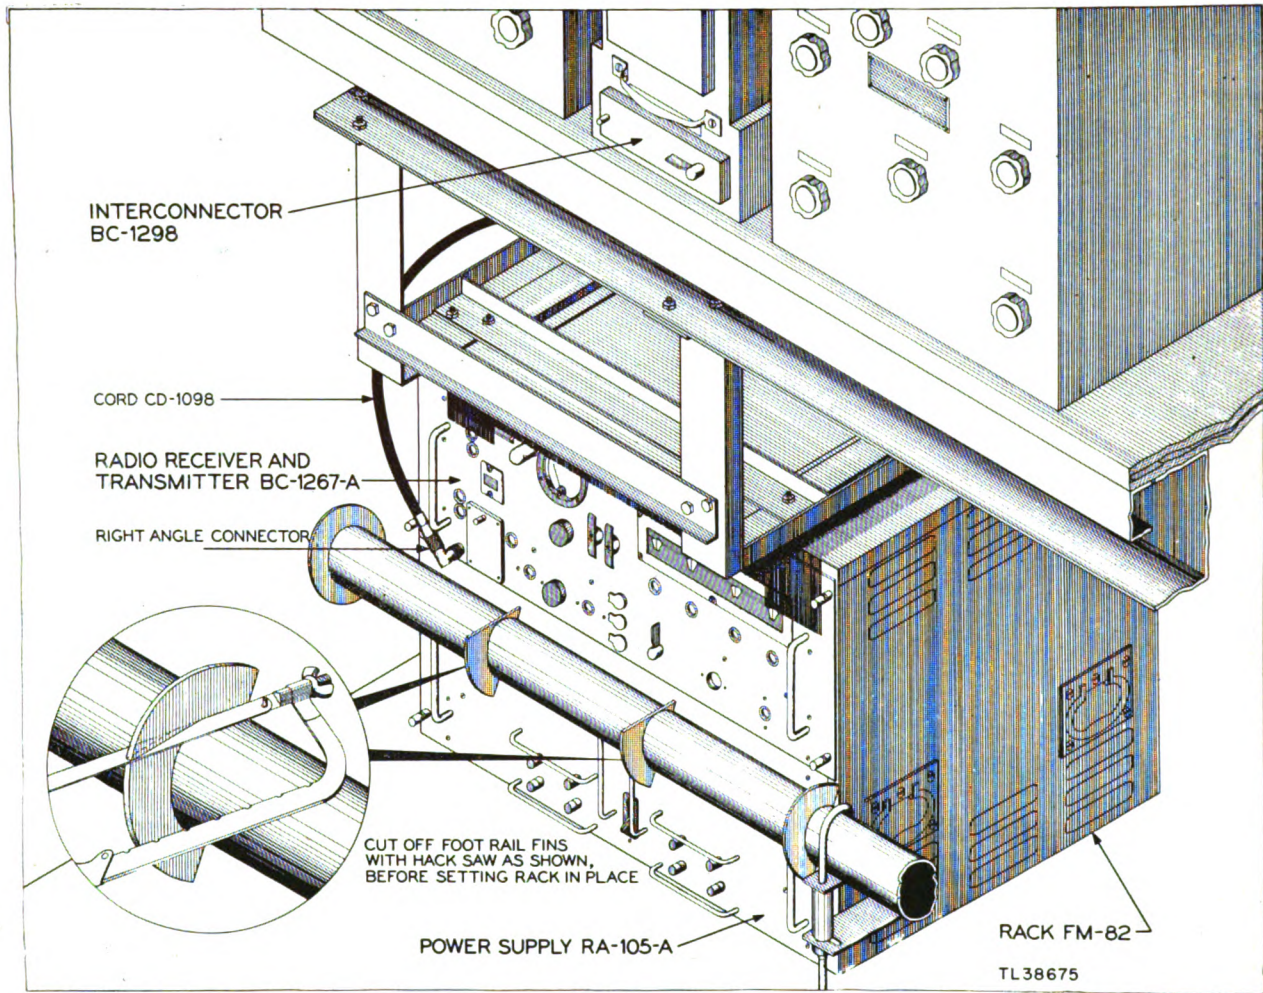

Figure 27. Cutting off the fins from footrail of Radio Set SCR-268-C.
i. Take a hacksaw from the tool chest and saw two of the footrail fins off flush with the top of the rail (fig. 27).
Rack FM-82 (fig. 27) containing Radio Receiver and Transmitter BC-1267-A on the second level, and Power Supply RA-105-A on the first level, can now be installed on Radio Set SCR-268-C.